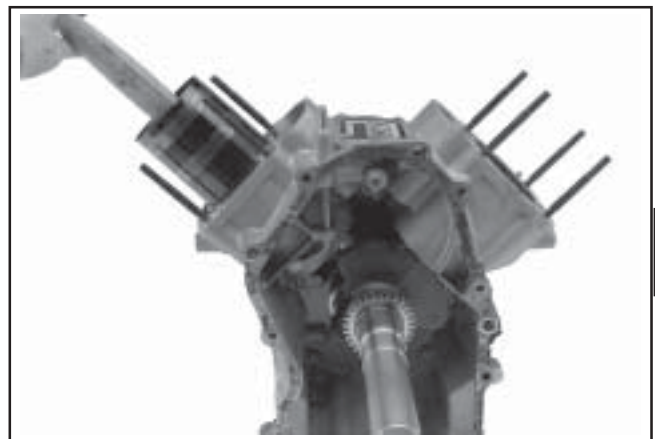

Figure 11-7. Installing #1 Piston.
4. Make sure the "FLY" stamping on the pistons is facing towards the flywheel side of the engine. Use a hammer with rubber grip and gently tap the piston down into cylinder as shown in Figure 11-7. Be careful that oil ring rails do not spring free, between the bottom of the ring compressor and the top of the cylinder.